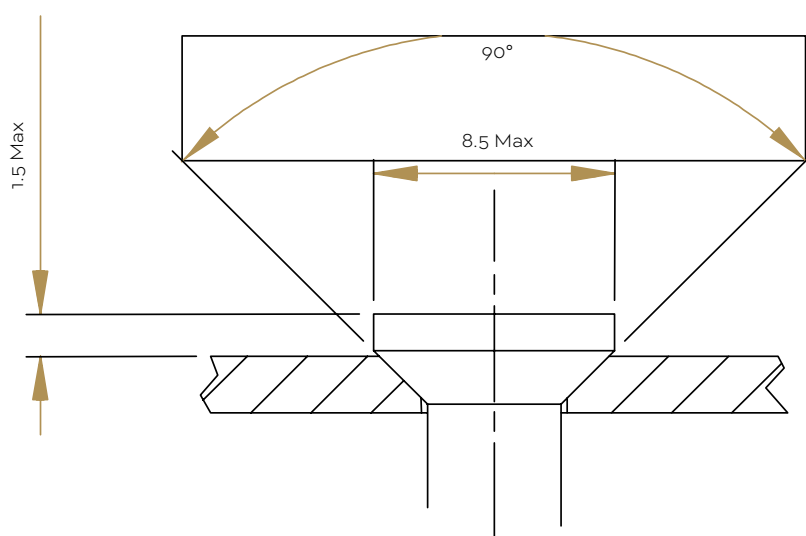

Fig. 3
- 3.1.16** Countersunk head screws. See Fig. 3.